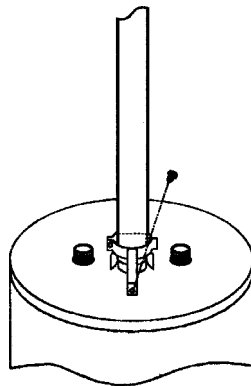

FIGURE 18.
8. Slide the securing clamp over the bottom of the flue pipe and pull the pipe down over the flue collar. Locate vent securing clamp in top and secure clamp with sheet metal screw. Tighten nut and bolt clamp until flue pipe is tight in clamp, see Figure 18.